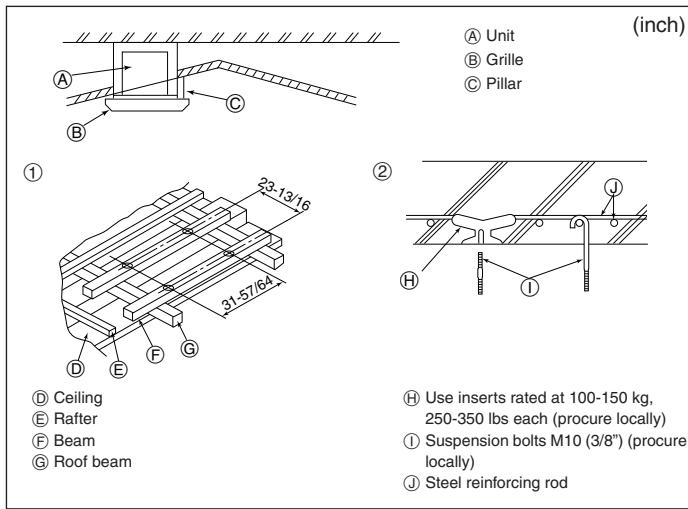

Fig. 3-5
- (F) Branch duct hole diagram (view from either side)
- (G) Cut out hole
- (H) 14-ø2.8 mm, ø1/8 inch burring hole
- (I) ø150 mm, ø5-29/32 inch cut out hole
- (J) ø175 mm, ø6-7/8 inch burring hole pitch
- (K) Fresh air intake hole diagram
- (L) 3-ø2.8 mm, ø1/8 inch burring hole
- (M) ø125 mm, ø4-29/32 inch burring hole pitch
- (N) ø100 mm, ø3-15/16 inch cut out hole
- (O) Ceiling
3.5. Suspension structure (Give site of suspension strong structure) (Fig. 3-5)